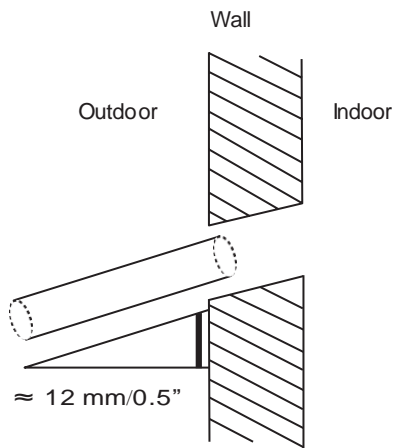

Fig. 6.5
- Using a 65-mm (2.5") core drill, drill a hole in the wall. Make sure that the hole is drilled at a slight downward angle, so that the outdoor end of the hole is by about 12 mm (0.5") lower than the indoor end. This will ensure proper water drainage (see Fig. 6.5). Place the protective wall cuff in the hole. This protects the edges of the hole and will help seal it when you finish the installation process.